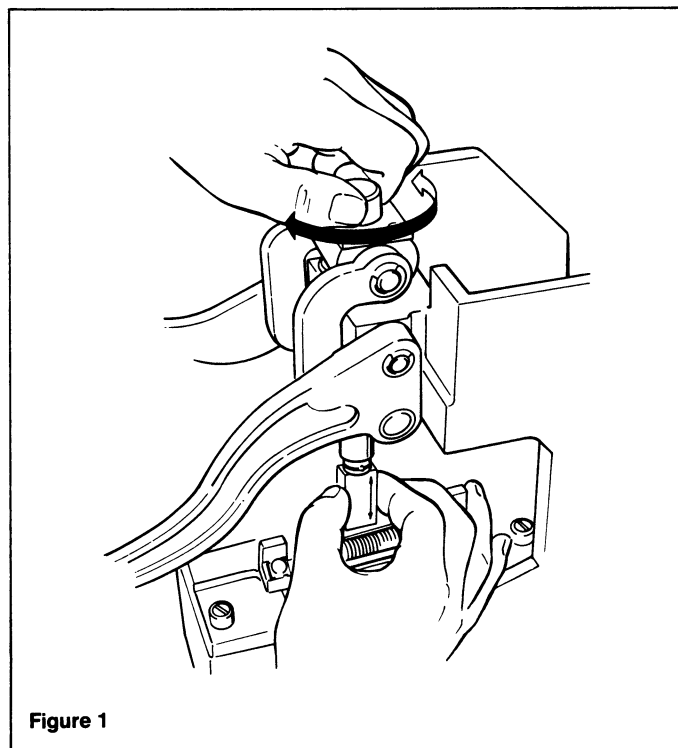

Figure 1
2. Position the Connector End Guides for either the plug or socket connector. (Figure 1) Lift and slide each end guide to the end and rotate each 180° if necessary.
3. Adjust the Connector End Guides for the desired number of contacts by lifting and sliding each end guide, aligning the end guide pins with the appropriate number on the label scale (Figure 1).